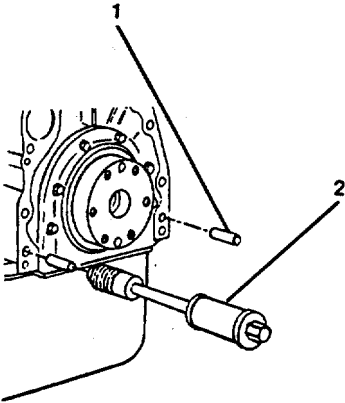
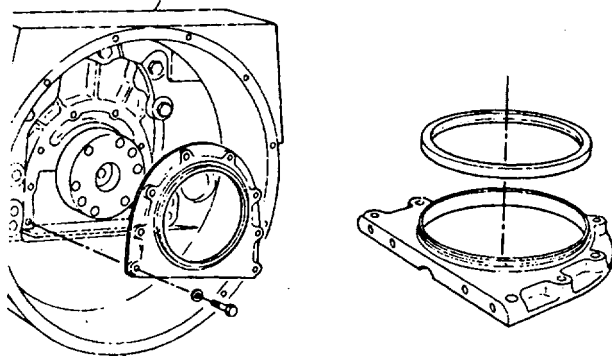

FIGURE 3-83. Flywheel Housing Redowel.
FIGURE 3-84. Crankshaft Flange Cover.
- (4) Insert a feeler gauge or shim stock between the rear cover and the oil pan gasket. Move the feeler gauge or the shim stock back and forth to release the gasket from the rear cover.
- (5) Remove the capscrews from the rear cover, and remove the cover from the crankshaft flange (FIGURE 3-83) .
- (6) Remove the crankshaft seal from the rear cover.
- (7) Use the lifting fixture to support the rear of the engine.
- (8) Remove the capscrews and both rear engine mounts (FIGURE 3-84) .
- (1) Use dowel pin extractor (2, FIGURE 3-83) and remove the two dowel pins (1) from cylinder block.